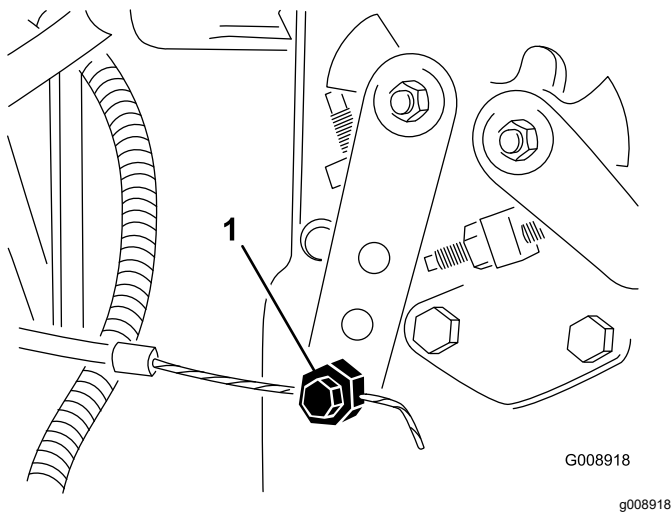

Figure 86
4. Loosen the throttle cable connector on the injection pump lever arm (Figure 86).